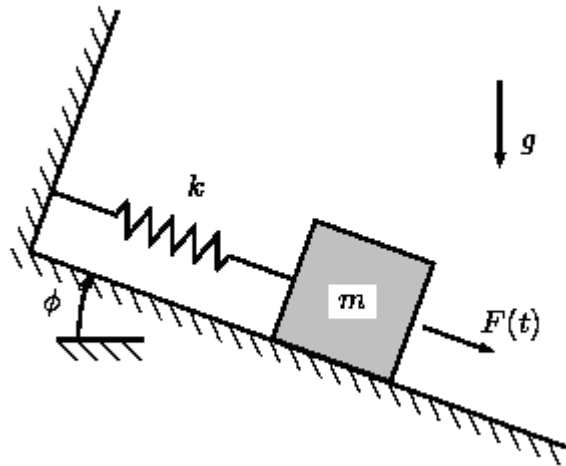

Figure 11:
7. For the system shown in below figure 11 the block slides on a rough surface (coefficient of friction μ) inclined at an angle of ϕ with respect to vertical. If the block is subjected to a periodic force of the form $F(t) = F_0 \sin(\omega t)$.